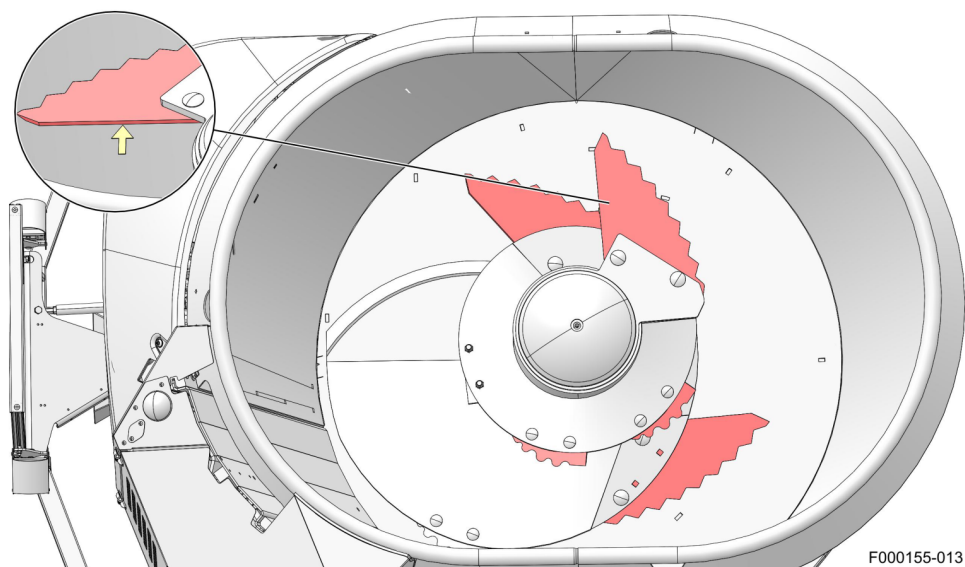

Figure 46. Examine the mixer knives
3. The big knives (new knives are 8 mm thick) must be at least 4 mm thick at the location of the arrow in the figure (see figure 46 on page 6-10).